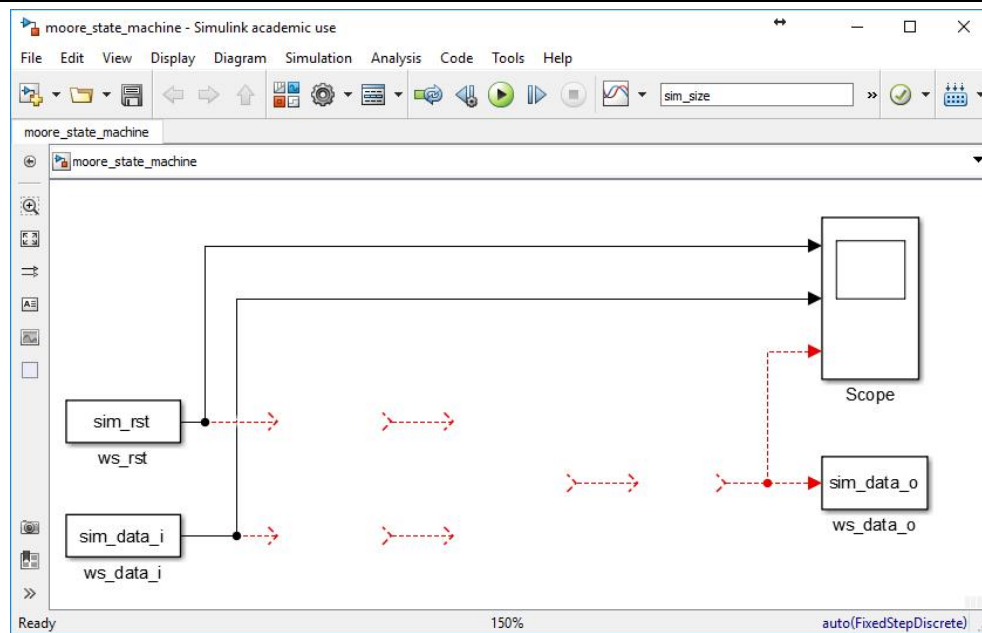

Fig. 5. Opened simulink project
3. A simulink project is opened as in Fig. 5. There are several missing components that need to be added before you can run the simulation.